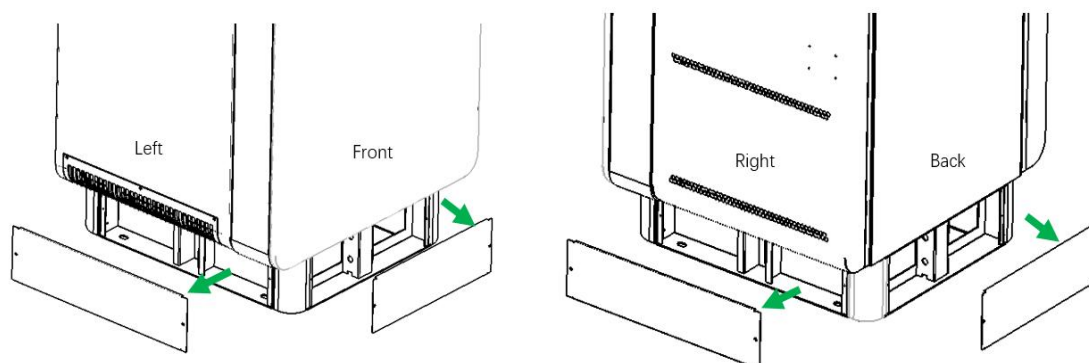

Figure 5 Schematic diagram of sealing plates
(1) Using a screwdriver, first remove the front, rear and side sealing plates of the base, as shown in Figure 5.